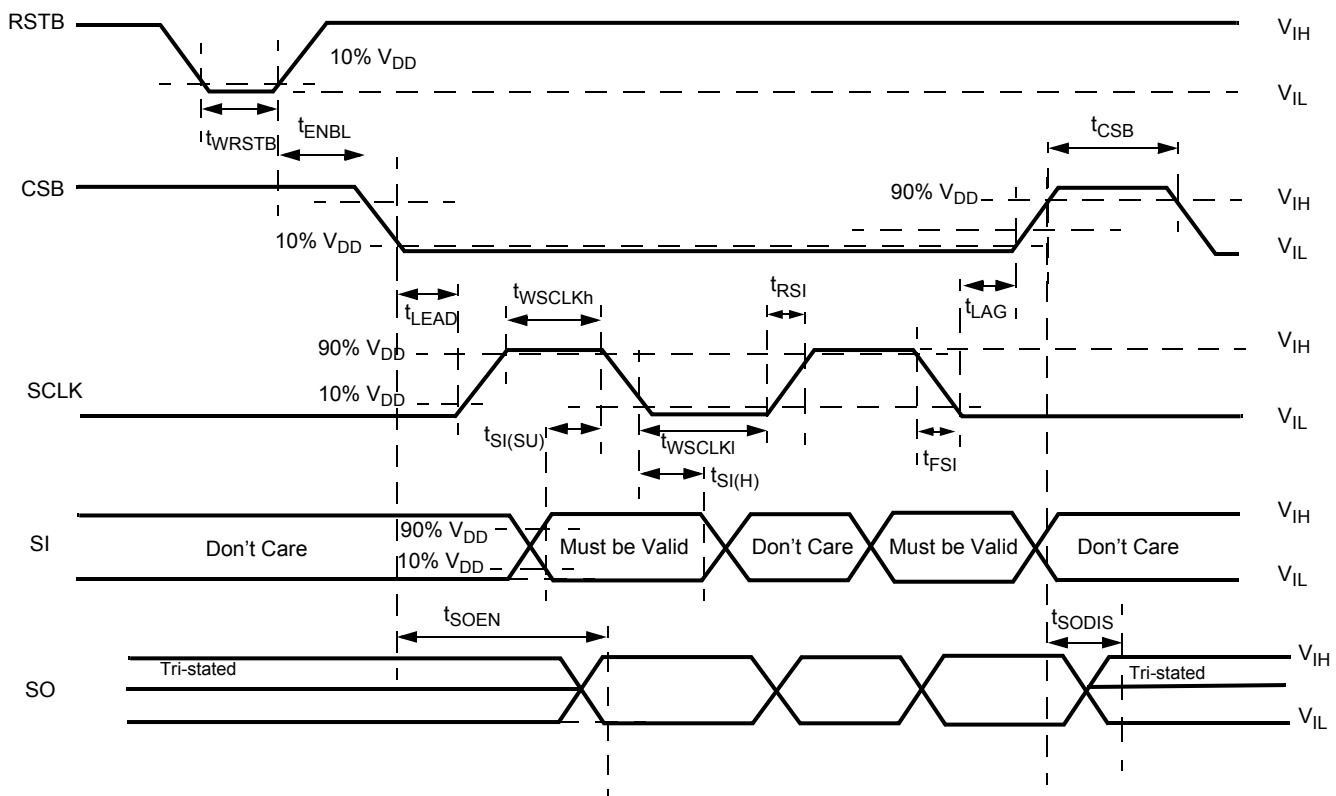
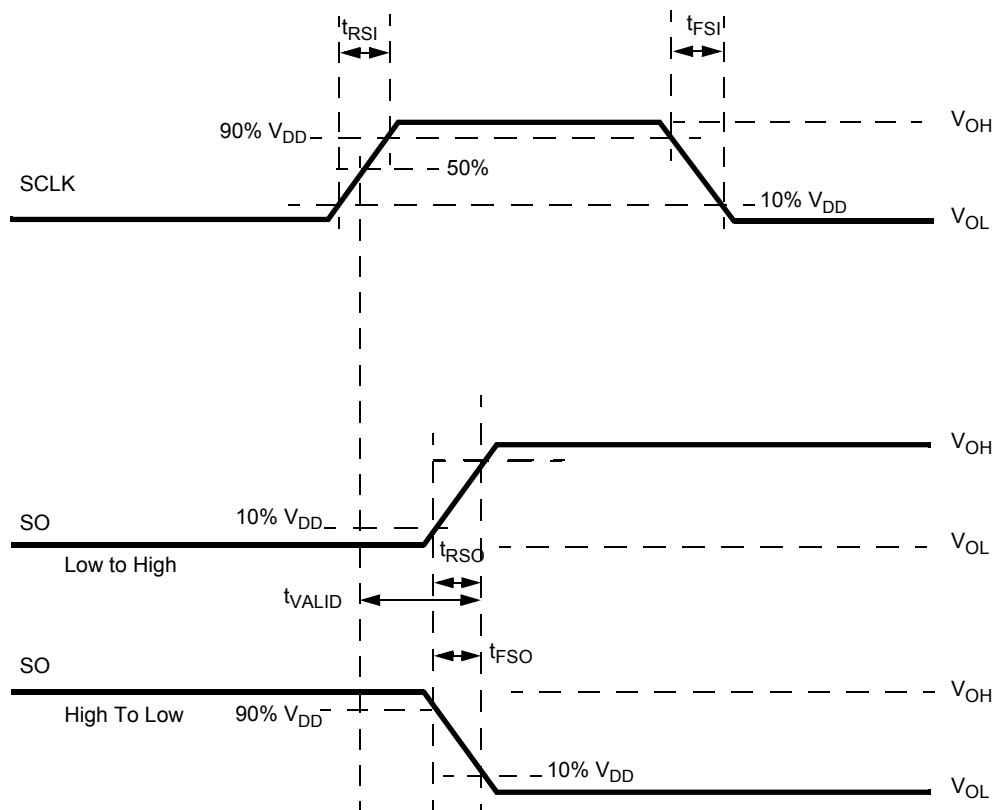

Figure 7. Timing requirements during SPI communication
Figure 8. Timing diagram for serial output (SO) data communication
Data communication over the SPI port is enabled when the CSB pin is in the logic [0] state. Data from the Input Shift registers are locked in the addressed SI registers on the rising edge of CSB. The device transfers the contents of one of the eight internal registers to the SO register on the falling edge of CSB. The SO output driver is enabled when CSB is logic [0]. CSB should transition from a logic [1] to a logic [0] state only when SCLK is at logic [0] (Figure 7 and Figure 8). CSB is internally pulled up to V_{DD} through I_{UP} .
Serial input (SI) data bits are shifted in at this pin. SI data is read on the falling edge of SCLK. 16-bit data packages are required on the SI pin (see Figure 7), starting with bit D15 (MSB) and ending with D0 (LSB). All the internal device registers are addressed and controlled by a 4-bit address (D9-D12) described in Table 14. Register addresses and function attribution are described in Table 15. The SI pin is internally connected to a pull-down current source, I_{DWN} .